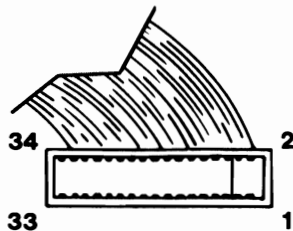

Figure 6. Signal Cable Voltage Check
- Check the voltage at pin 28 on the signal cable (Figure 6).